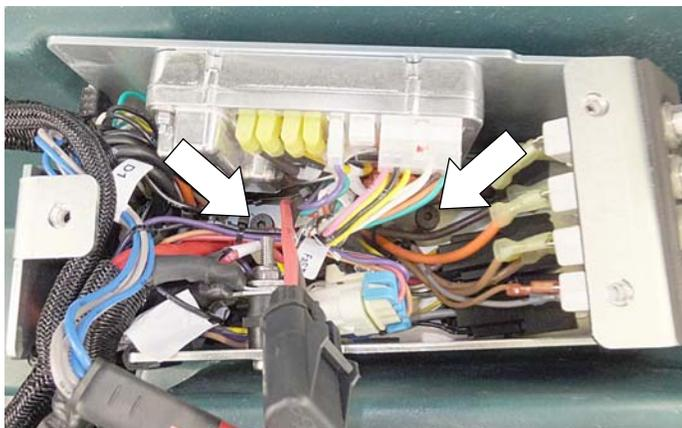

Fig. 12.
- 10. Replace the circuit breaker box side panel and remount the box to the machine (Figure 12).